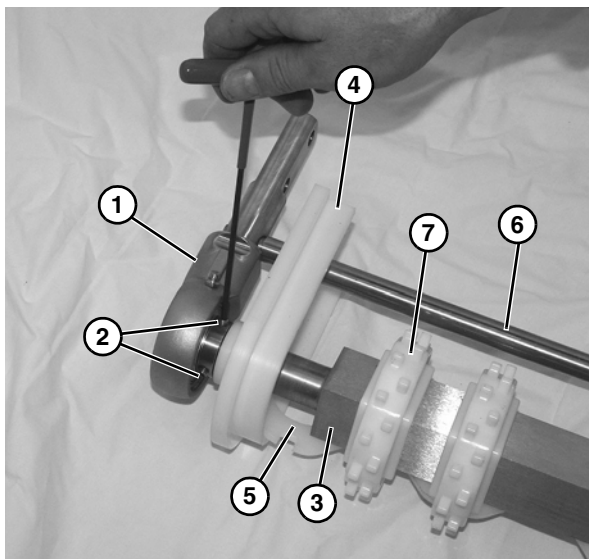

Figure 59
- Remove the bearing cover from bearing shaft assembly (**Figure 59, item 1**).
- Use a hex wrench to loosen two set screws (**Figure 59, item 2**) on the bearing shaft assembly (**Figure 59, item 1**).
- Slide the bearing shaft assembly off of the drive spindle (**Figure 59, item 3**). Slide bearing shaft assembly off the drive spindle on opposite side.
- Remove pinch guard (**Figure 59, item 4**) on each side.
- Remove sprocket alignment bar (**Figure 59, item 5**), and pinch guard shaft (**Figure 59, item 6**).
- Remove the sprockets (**Figure 59, item 7**).